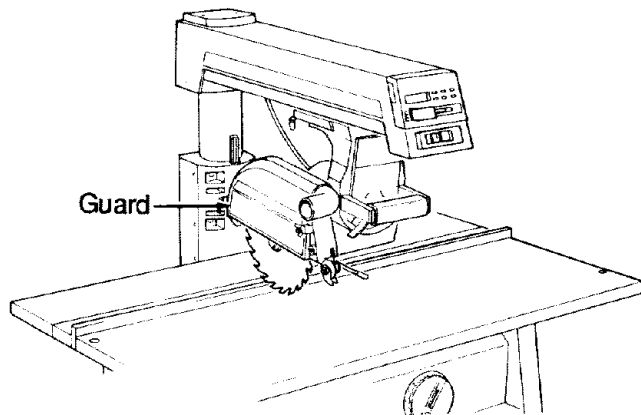

Fig. 98
2. Place the *guard* over the *blade*. You will feel the *guard* fall into place when the ridge on the inside of the *guard* slides into the slot on the *motor*. (Figure 98)